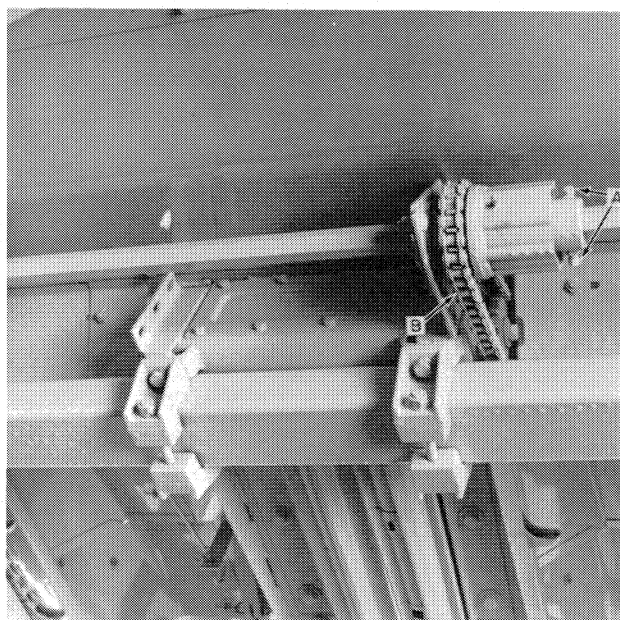

Figure 2-5
12. Loosen the two setscrews, A, Figure 2-5, which secure the row unit slip clutch on the row unit drive shaft.